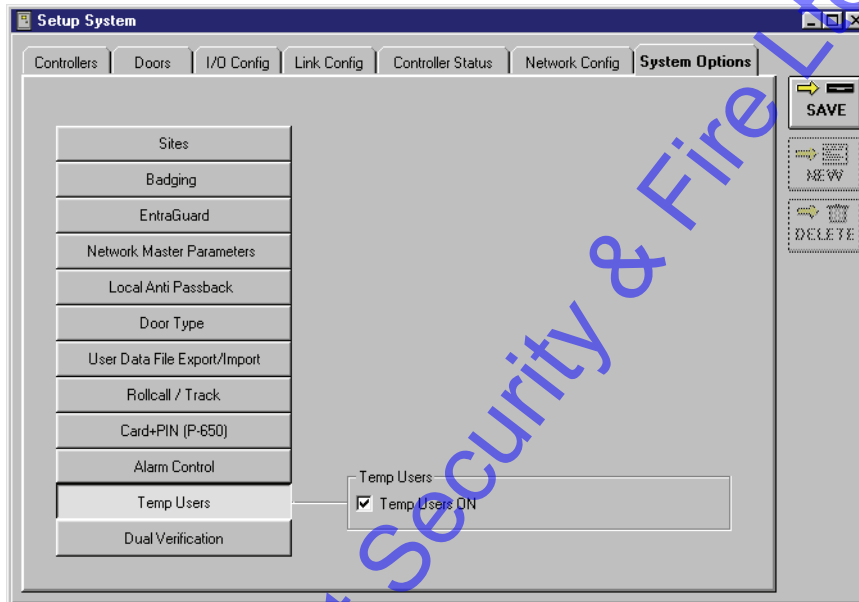

Figure 13-5: System Options Tab - Temp Users Enabled
The Temp Users ON check box is used to disable the temp users feature (see Figure 13-5). Perform the following steps to disable the temp users feature.
1. Click on the Setup ⇒ System pull-down menu or click on the  button on the tool bar, click on the **System Options** tab, then click on the  button. The System Options window will change to reveal the temp users window (see Figure 13-5).